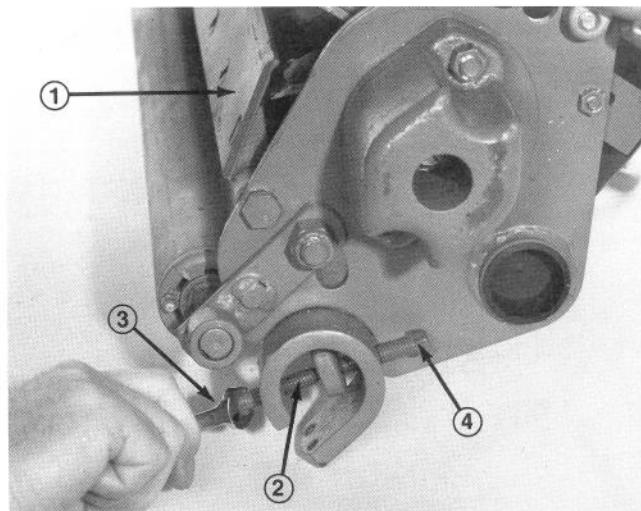
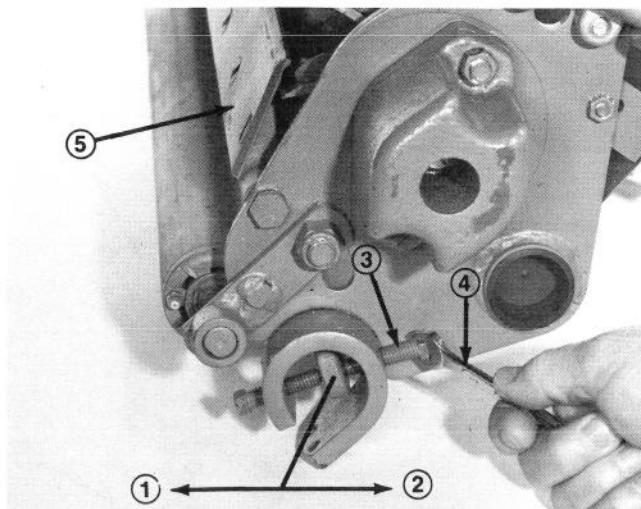

Figure 1
Figure 2
1. Adjustment of bedknife to reel is accomplished by first, loosening bottom screw on each side of cutting unit (Fig. 1), then tightening the top adjustment screw on each side of cutting unit (Fig. 2). This adjustment will position the bedknife closer to the reel blades.
2. After adjusting bedknife to reel, make sure that both the top and the bottom adjustment screws are secured on both ends of the cutting unit (Fig. 1, 2).